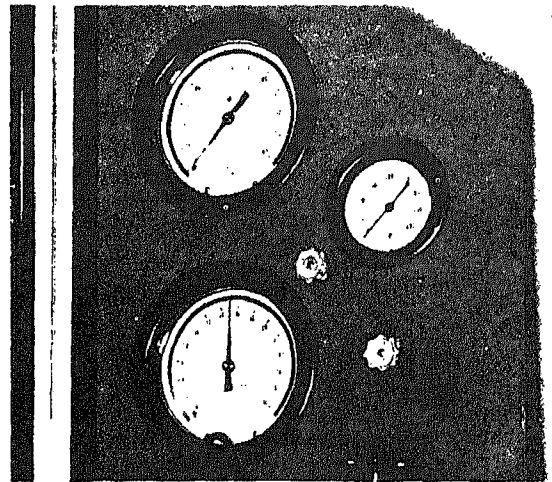

Fig. 511-14. Check vacuum gauge reading
1. With test stand operating at 500 rpm, close vacuum valve in fuel pump suction line till vacuum gauge reads 15 inches vacuum. The fuel flow control or needle valve should be open during this check. Fig. 511-14.